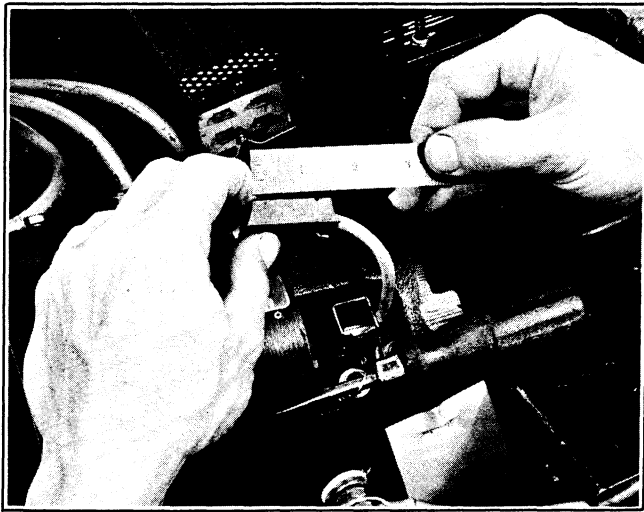

Figure 5L-3. Measuring Brush Length
At regular service intervals or if car fails to give normal performance on hills, indicating possible belt slip, V-belt tension should be checked and adjusted. Raise rear body section. To check V-belt tension, apply pressure (approximately 10 to 14 lbs.) on each belt separately at a point midway between the motor sheave (2) and rear axle sheave (3) as shown in Figure 5L-1. Deflection should be 1/4 in. To tighten V-belts, turn front adjusting screw (4) down until belt tension is correct, then turn rear adjusting screw (5) down until it seats on the differential housing.